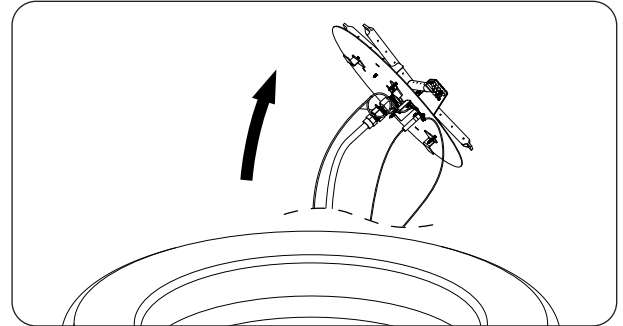

Fig. 33-1 Remove burner and valve assembly
6. Carefully remove the burner and valve assembly and set it off to the side (see Fig 33-1).